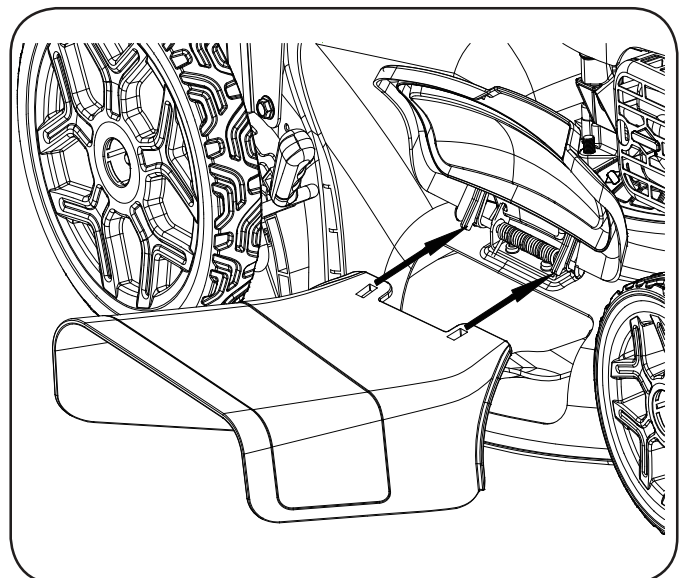

Figure 7
- b. Slide two hooks of side discharge cover under hinge pin on mulching cover assembly (Figure 7).